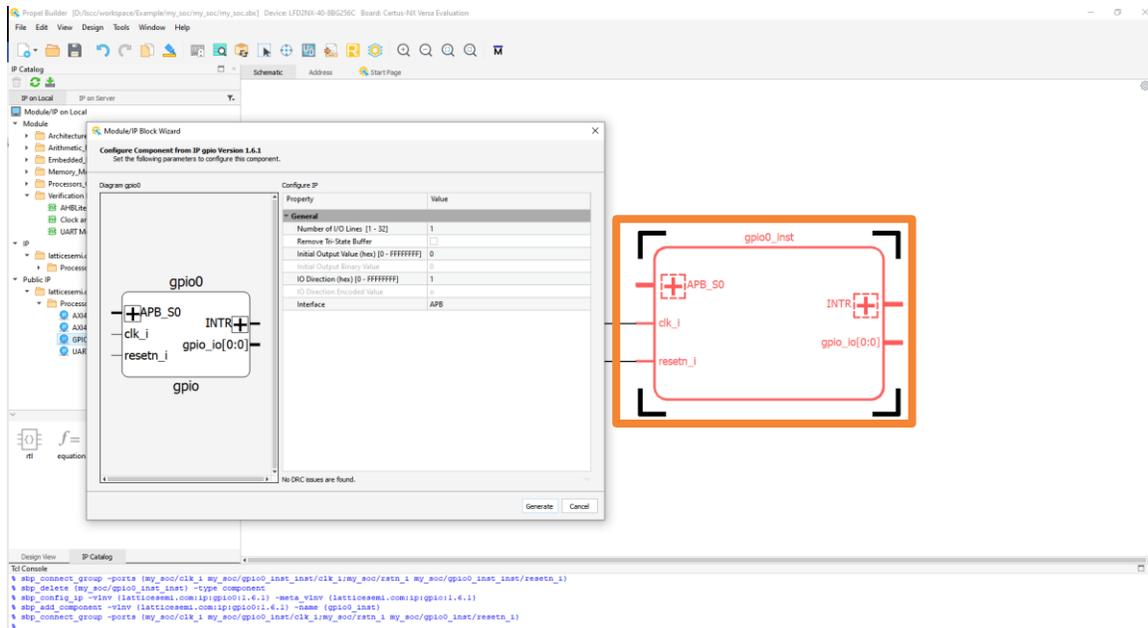

Figure 2.26. Regenerate Module/IP
10. (Optional) To re-generate this IP, double click on the instance. A Module/IP Block wizard pops up (Figure 2.26).